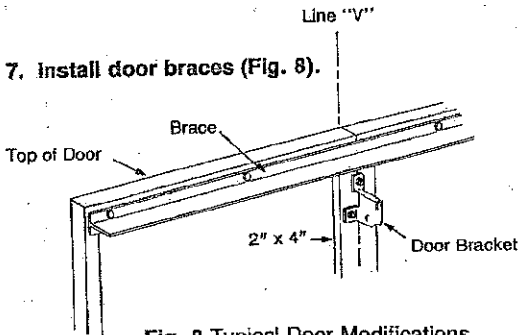

Fig. 8 Typical Door Modifications
7. Install door braces (Fig. 8).
(Fig. 8)